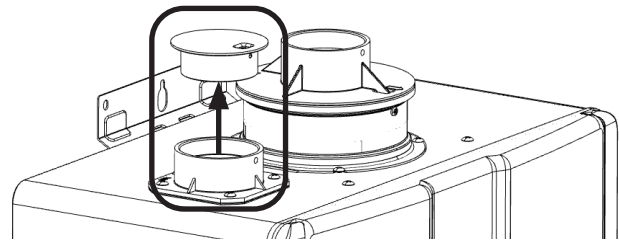

Figure 43
2. Remove and discard the combustion air vent cap (Figure 43).